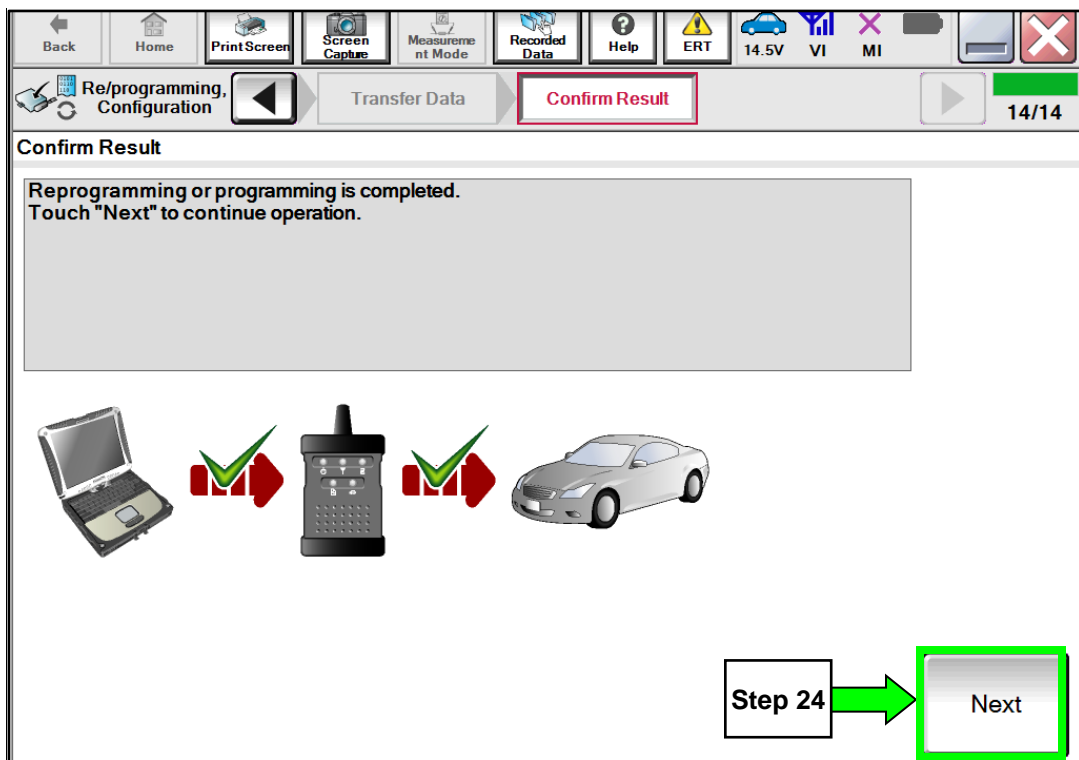

Figure 19
**IMPORTANT:** If the screen in Figure 19 does **not** display (reprogramming did not complete), refer to the BCM Recovery information on Page 15.